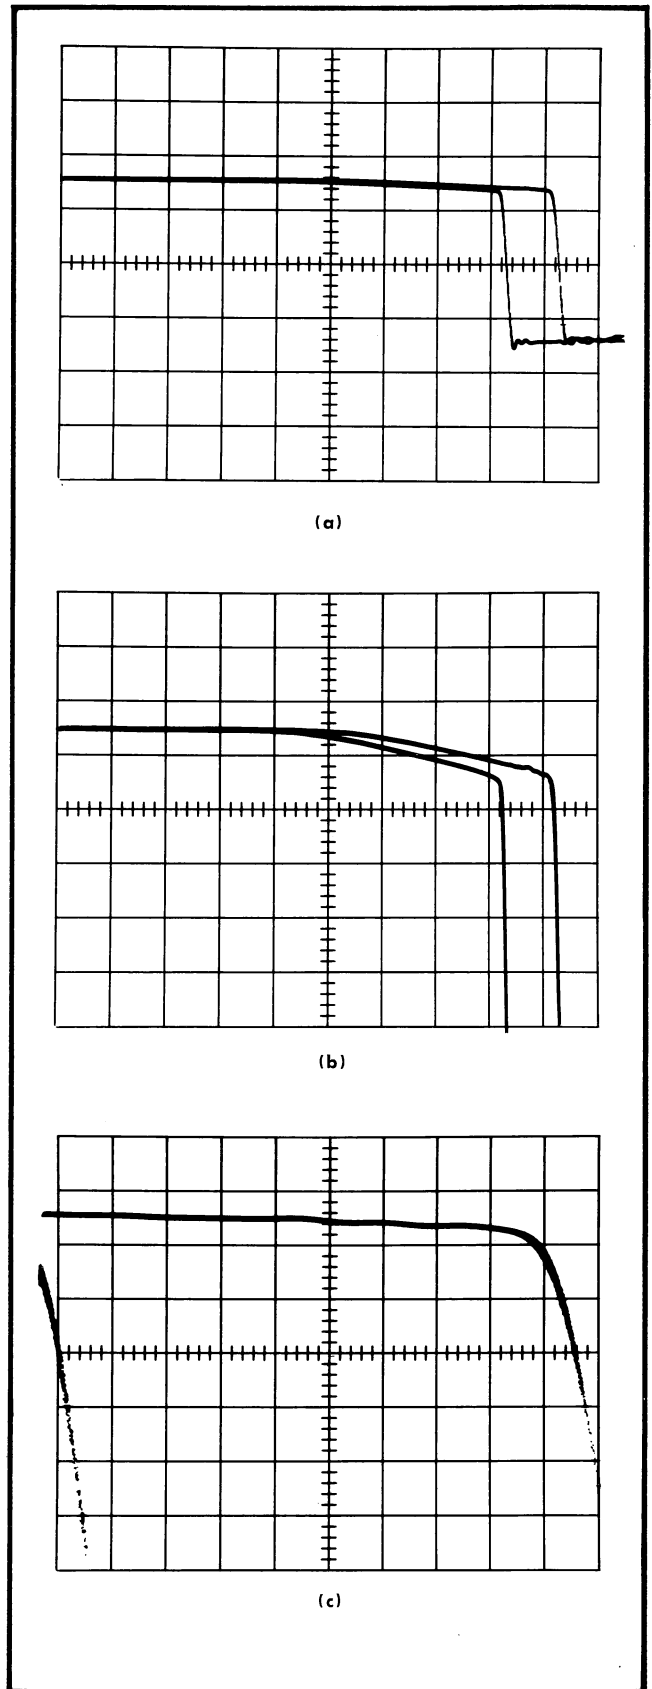

Fig. 4-8. Time delay check, step 5.
- d. Obtain a display as shown in Fig. 4-8 (a). Position the display to the right so the two traces are superimposed at the left side of the display.
- e. Increase the vertical-unit deflection sensitivity to 20 mv/cm each channel. Reposition the traces to be vertically equal as shown in Fig. 4-8 (b).
- f. Increase the sweep rate to 200 psec/cm. (Type 5T1A: TIME/CM at 2 nSEC, TIME EXPANDER at ×10.) Set the Type 5T1A TIME POSITION control for a display similar to Fig. 4-8 (c).